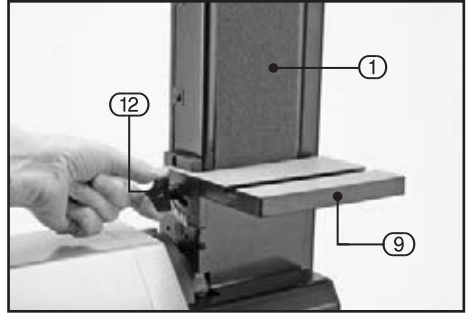

FIG.8
8.6 BELT WORK TABLE ANGLE ADJUSTMENT - FIG. 8